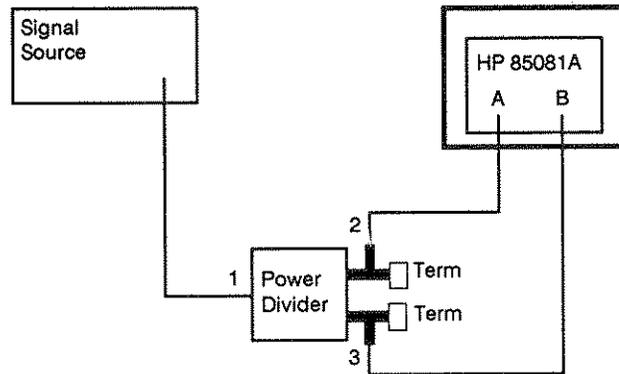

Figure 4-3. Phase Accuracy vs Frequency Test Setup
1. Configure the equipment as shown in Figure 4-3 and connect the probe tees directly to the power divider outputs and ensure that the probes are firmly located.